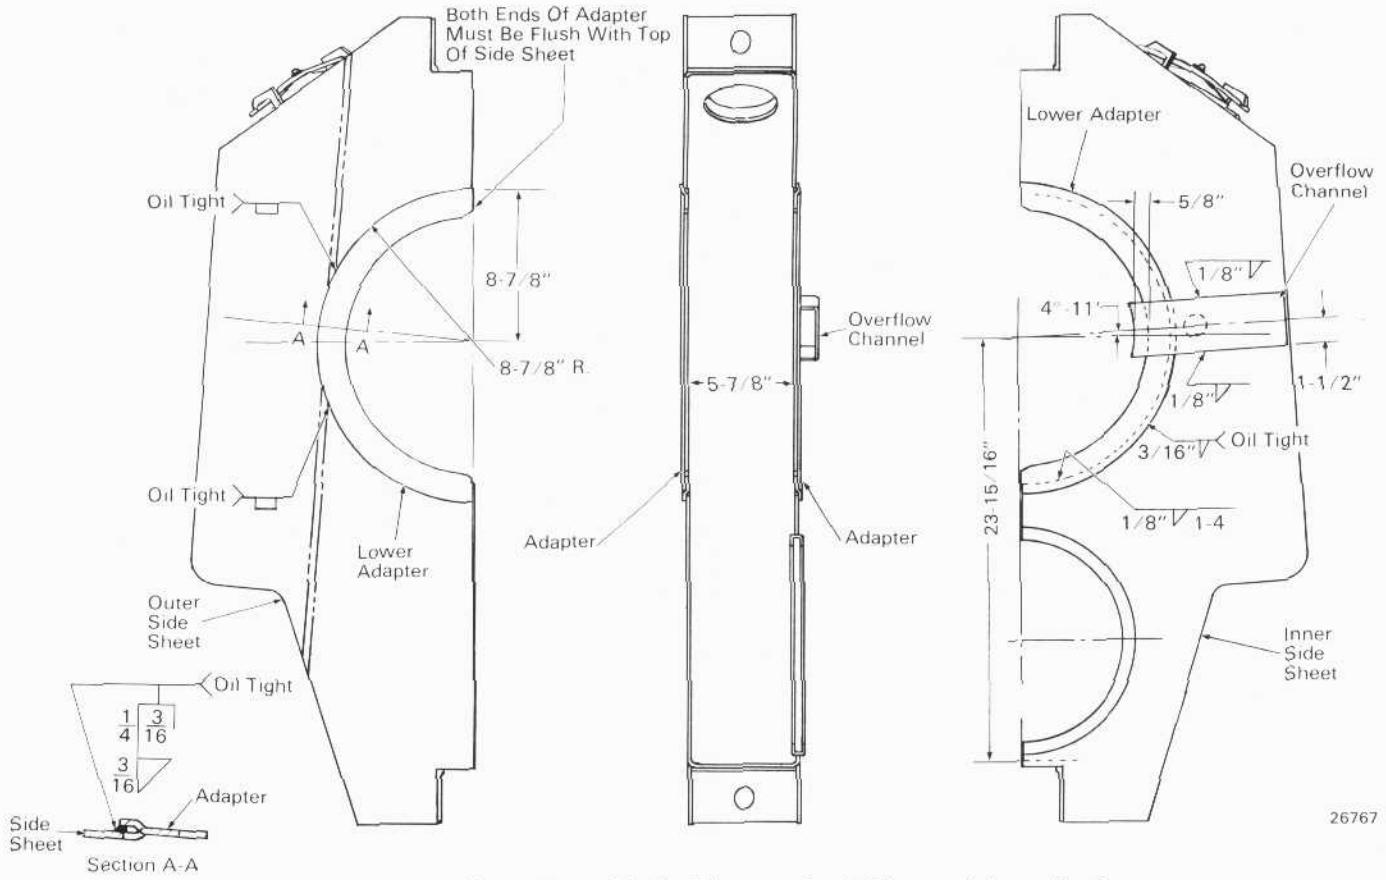

Fig. 4 - Lower Gear Case Half, Adapter And Channel Installation
4. Refer to Figs. 4 and 5 and apply adapters as shown. Adapter 9540735 is applied to the lower gear case half. Adapter 9540736, with the locating key for the seal ring, is applied to the upper gear case half. The locating fixture (WS42778) is used to accurately locate the adapters in relation to the pinion bore, Fig. 6. The ends of the adapters must be positioned flush with the machined parting lines of the gear case halves, as shown in Fig. 7. Tack weld the aligned adapters and remove the locating fixture. Weld adapters in place as shown in Figs. 4 and 5. To minimize distortion, make the interior welds first and then make the outer weld in a series of short passes. Note that the locator bars on the locating fixture are positioned for either upper or lower gear case halves (see WS42778).
5. Apply the new 9540737 overflow channel to the lower half to dimensions shown in Fig. 4. This new duct will cover the overflow hole and will protect the oil run-off slot in the bottom of the inner plastic seal from contamination. For this reason, proper positioning of the overflow channel is important.